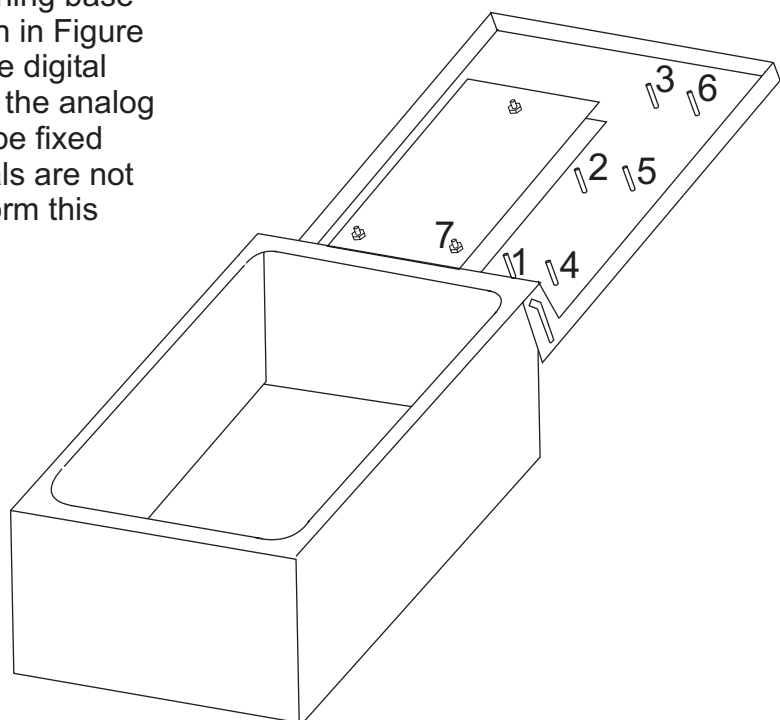

Figure 1: Designation of the distance bolts on the case cover
4. Installation of the Board (Figure 1); not required if included in the delivery